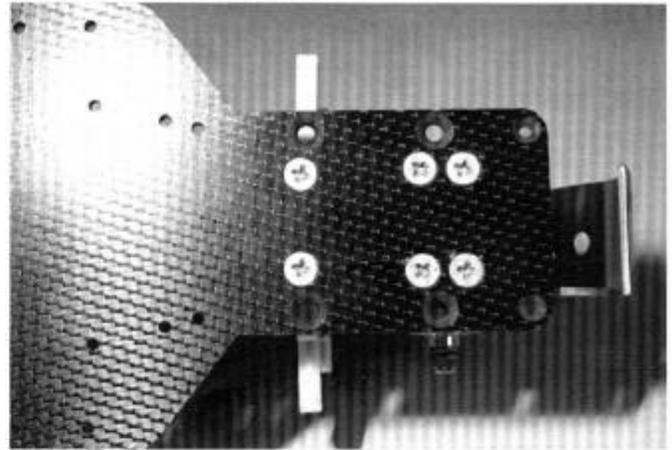
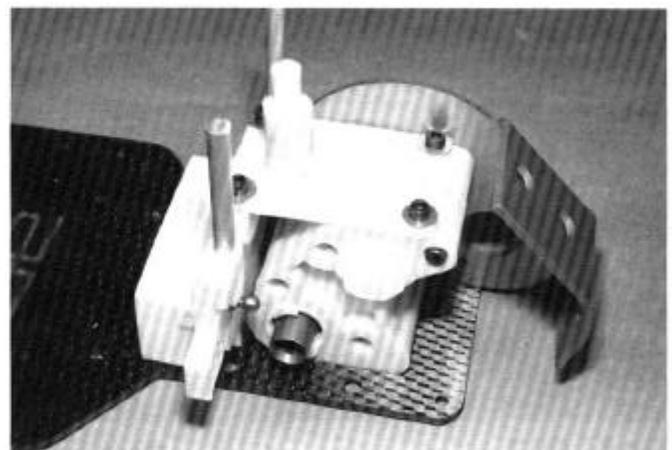

FIG. 96
FIG. 98
□ **FIG. 96**—All six of these screws should be a little loose still.
□ **FIG. 98**—Mount the transmission brace to the transmission and to the bulkhead as shown and tighten the four screws. NOW TIGHTEN the six screws shown in Fig. 96. DO NOT OVERTIGHTEN.